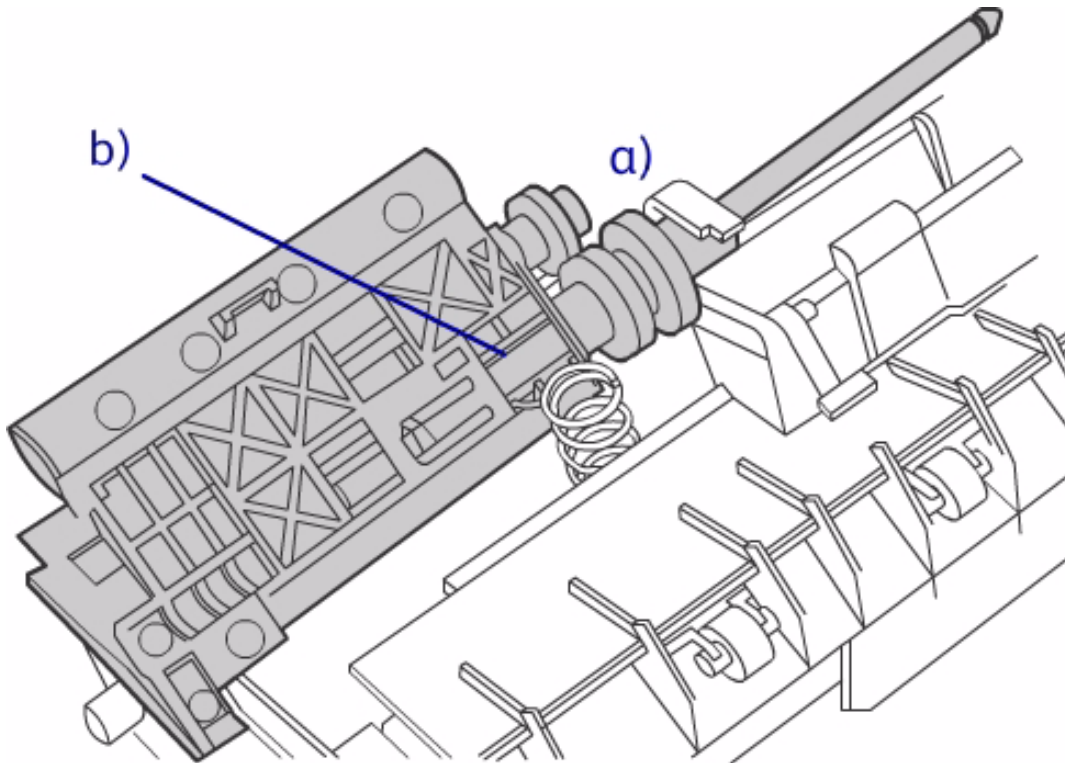

Figure 3
1. Installing the Feeder Assembly. (Figure 3)